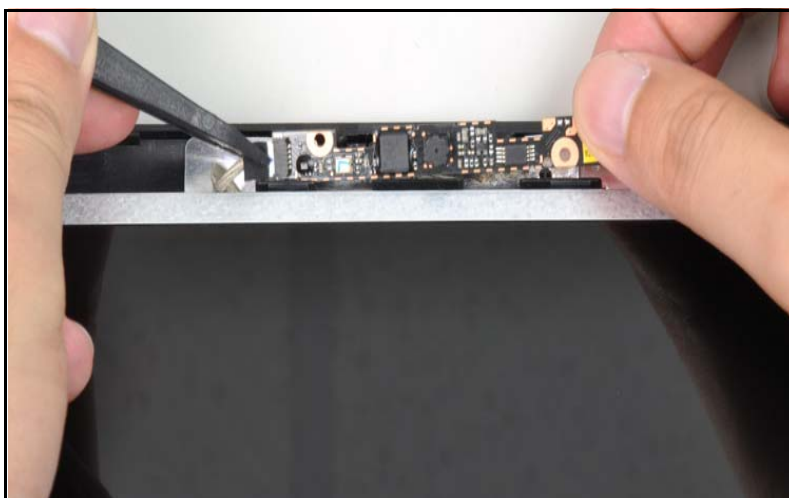

Figure 3-46. Camera Module Removal
2. Disconnect the cable as shown (Figure 3-46).
1. Connect the camera cable. Refer to Figure 3-46.